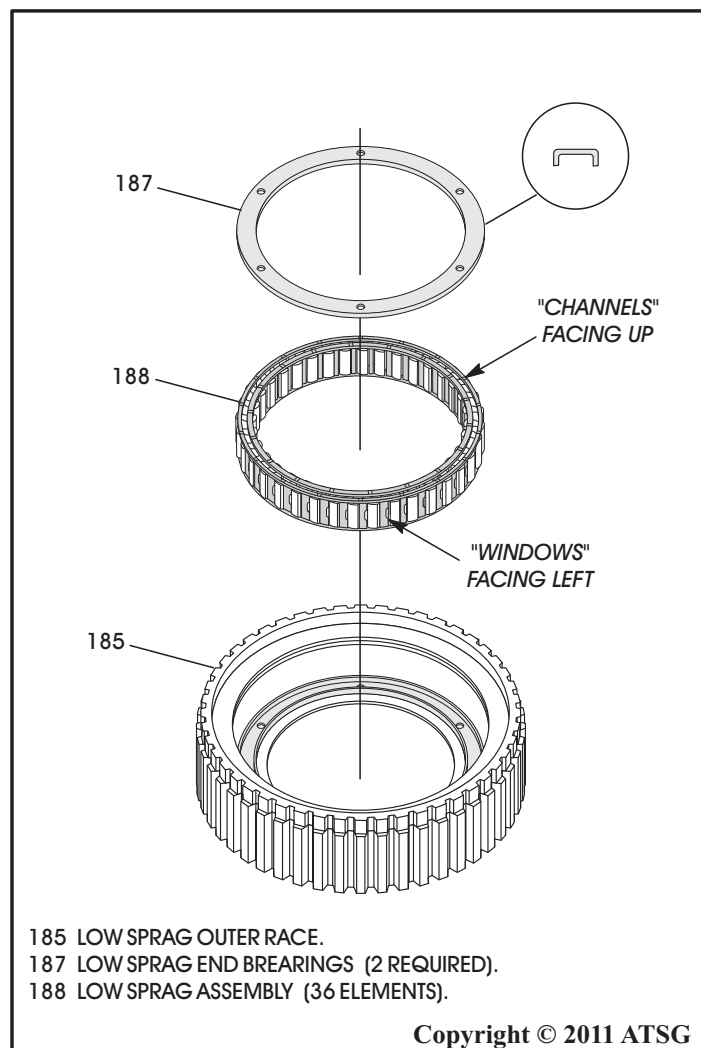

Figure 69
9. Install the second low sprag end bearing with the lips facing down, as shown in Figure 69.